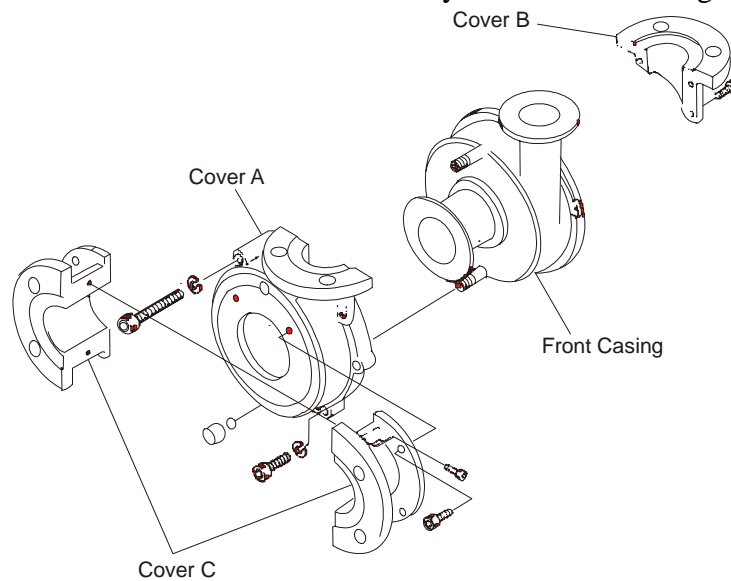

Figure 19
7. Attach and temporarily secure the two halves of Cover C (9) to Cover A (7) with the hex socket bolts (17). Tap the two parts gently in a slanted direction from the front casing liner suction port. [Fig. 19]
9. Insert gasket (10) into the vent and drain caps (14) prior to installing them.